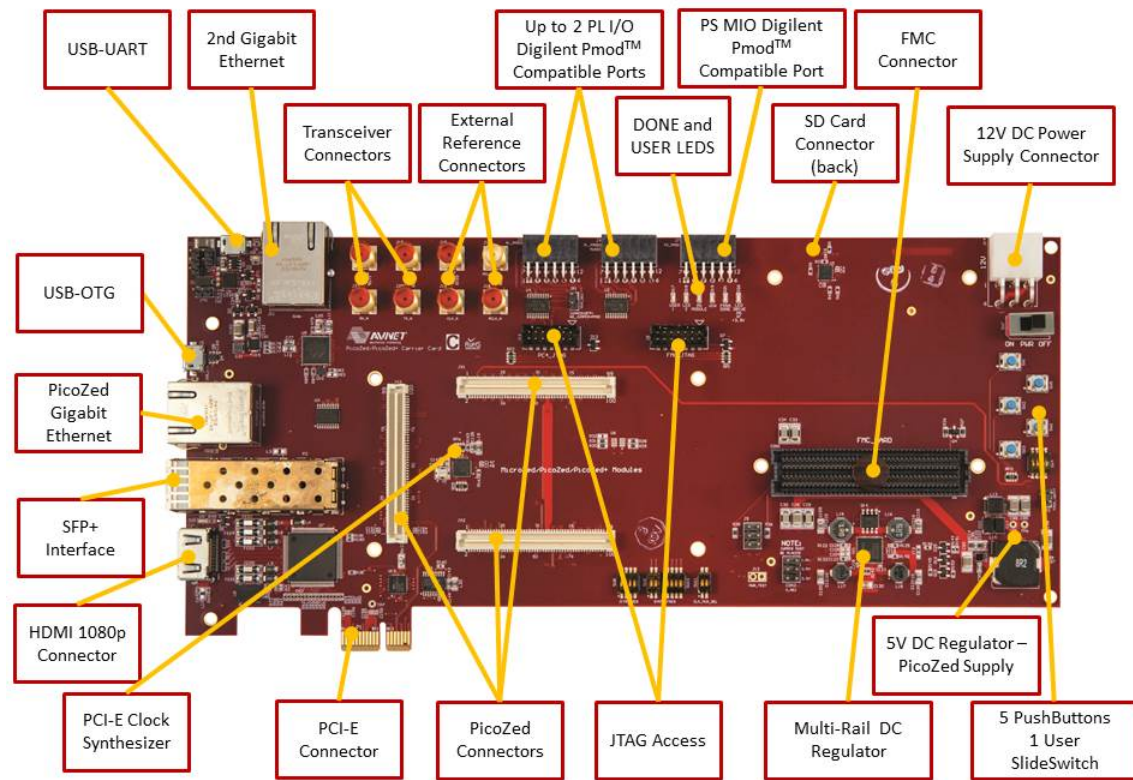

Figure 5 – PZCC-FMC Topology
8. Insert the blank formatted 4GB microSD card included with PZCC-FMC into the microSD card slot (J2) located on the underside of PZCC-FMC (see Figure 5 for location).